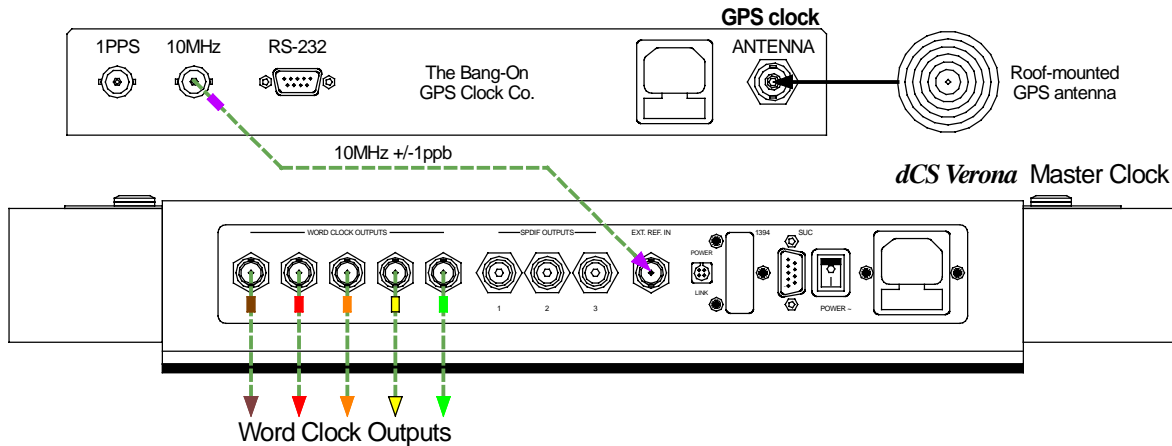

Figure 3 – Slaving the *Verona* to a GPS clock
- do this:** Connect up as shown in **Figure 3**.